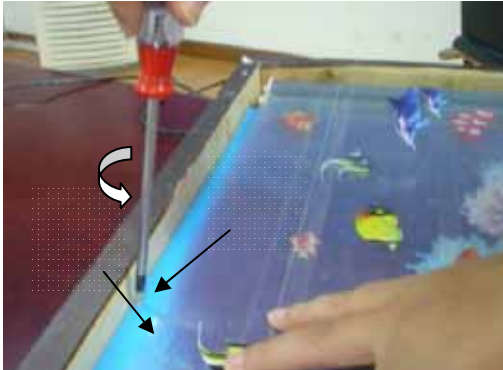

Fig.7
- 1, Power off the product, use a plane screw driver to take out the screws from the acrylic sheet as shown in Fig.7, then take out the screws on 4 underlaid plates as shown in Fig.8.